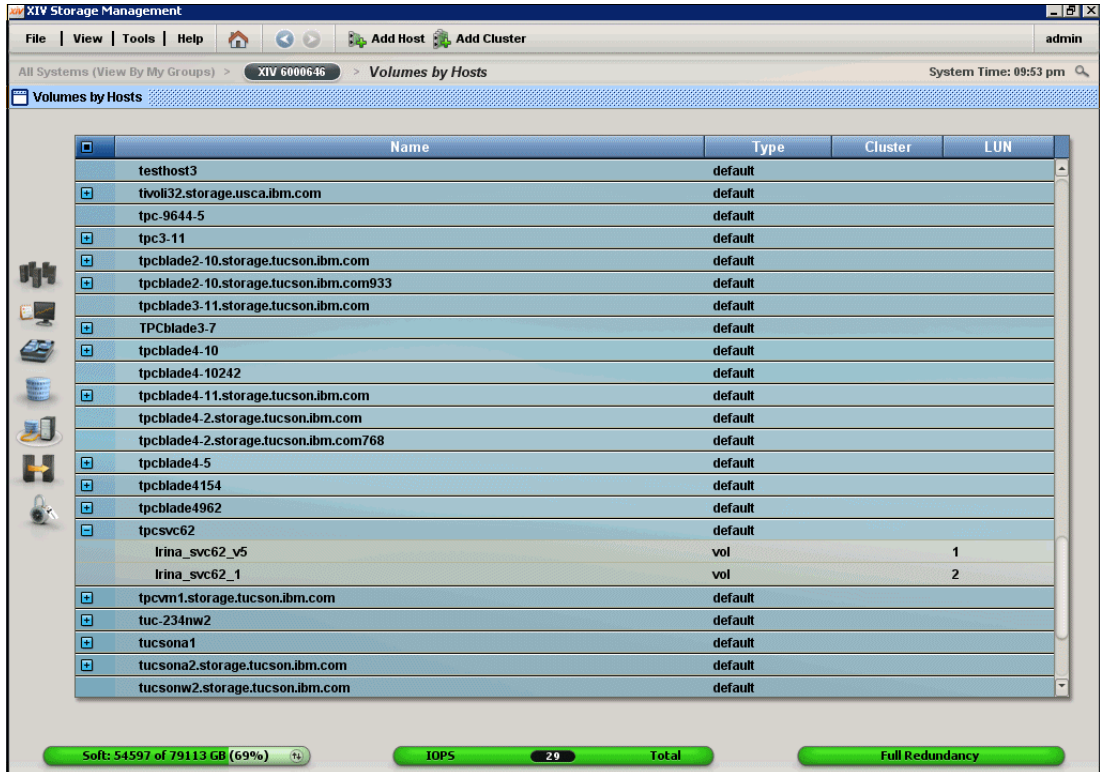

Figure 3-5 XIV Volumes by Hosts view
- To identify your LUN, in the volumes by Hosts view, expand your IBM Spectrum Virtualize or Storwize host group and then review the LUN column, as shown in Figure 3-5.